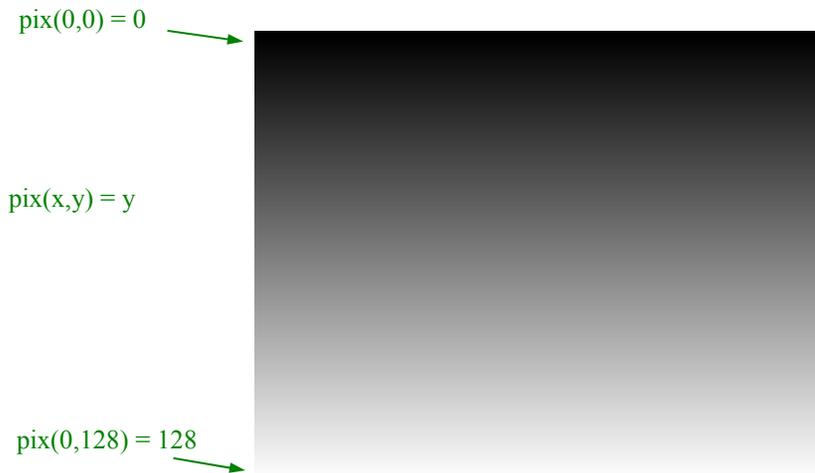

Figure 21: Vertical shade test pattern
3. Vertical Shade. In this mode, the test pattern shown in Figure 21 is provided at the analog and digital data channels.